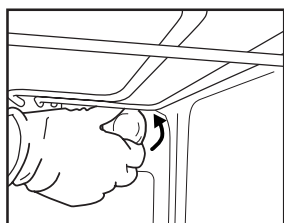

Fig. 4
2. Unscrew the lamp cover (Fig. 4), replace the lamp (see note for lamp type) and screw the lamp cover back on.